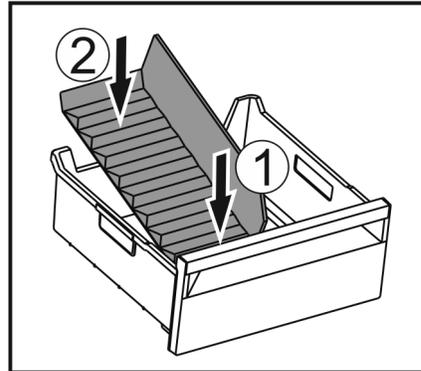

Fig. 42
- ▶ Put in the divider at the front at first Fig. 42 (1).
- ▶ Lower the rear part Fig. 42 (2).